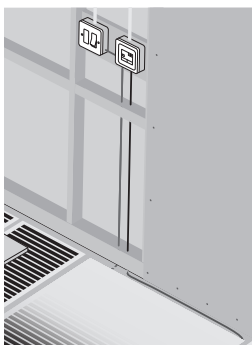

Fig.3. Forbered for termostat
2. Forbered installasjonen for termostaten. (fig.3)